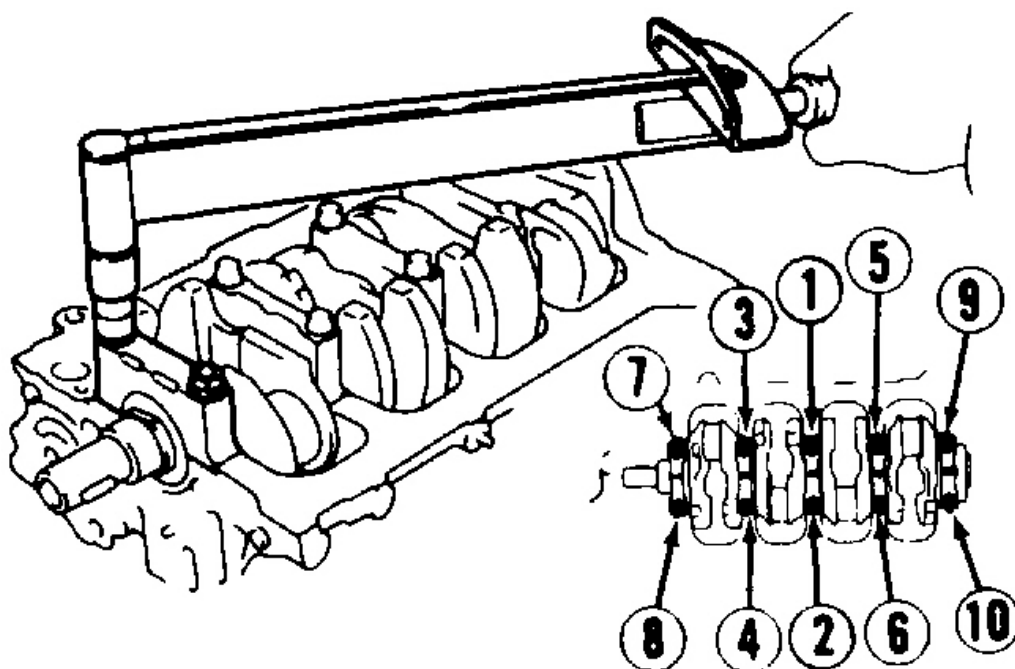

Fig. 18: Crankshaft Main Bearing Tightening Sequence
4. Install thrust washers on No. 3 bearing cap with oil grooves facing outward. Install bearing caps in numerical order. Apply engine oil to threads of cap bolts. Tighten cap bolts in 2 or 3 stages and in proper sequence. See Fig. 18.